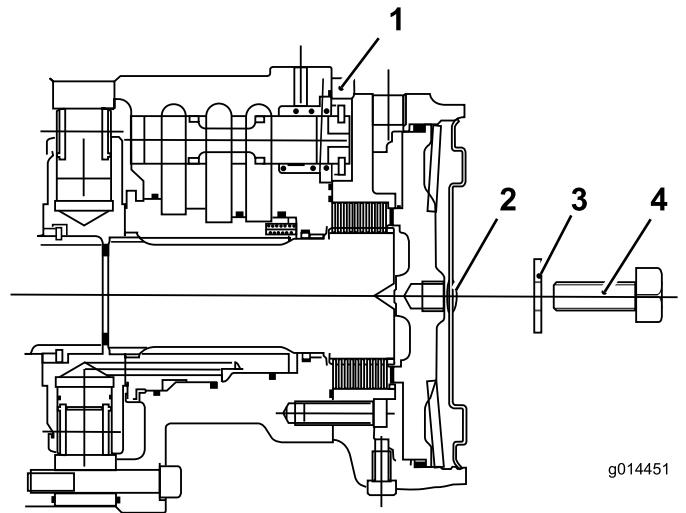

Figure 39
- C. Assemble the hex plug into the motor end plate (Figure 39).